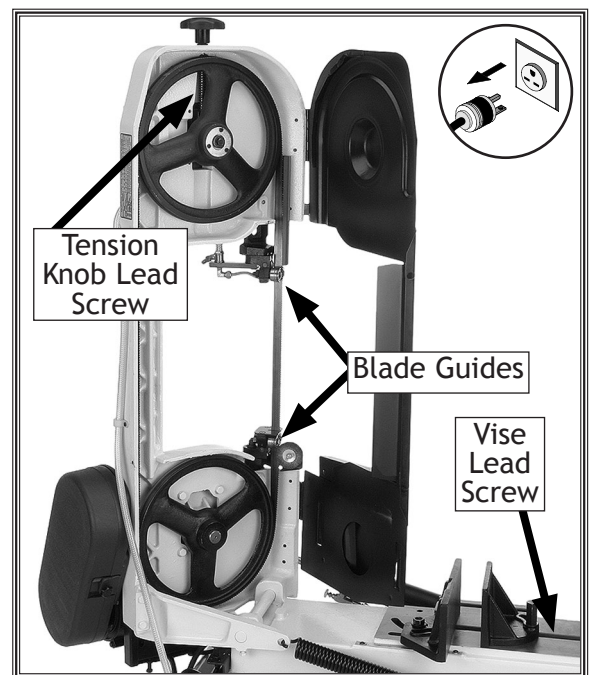

Figure 44. Main lubrication points.
- **Blade Tension Mechanism:** Open the main blade guard and drop a few drops of oil on the tension knob lead screw (see **Figure 44**).
- **Vise lead screw:** Drop a few drops of light machine oil on the vise lead screw weekly (see **Figure 44**).